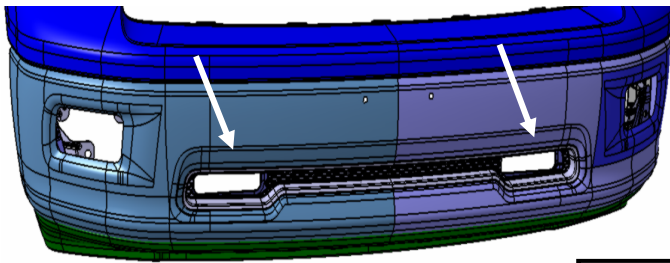

Fig.1
- A. **2009-2012 Models without tow hooks and 2009-2015 Express and Sport models:** Removal or trimming of blank filler panel in bumper is required in order to allow attachment of upper support straps to bull bar. Remove the inserts by removing the 2-piece plastic clips at the top of the panel. Use a flat-blade screwdriver to first pop the center pin out to release the clip. See **Figures 1 & 3.**